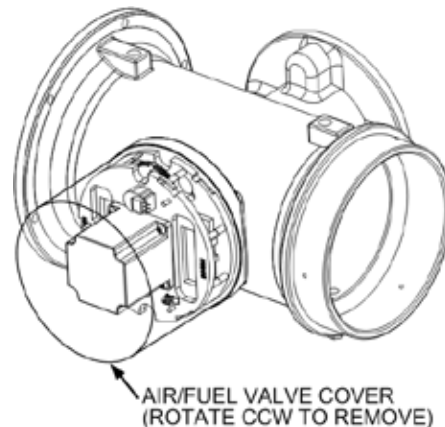

Figure 5-7. Typical Air/Fuel Valve Cover Location
2. Remove the Air/Fuel Valve cover by rotating the cover counterclockwise to unlock it (see Figure 5-7).